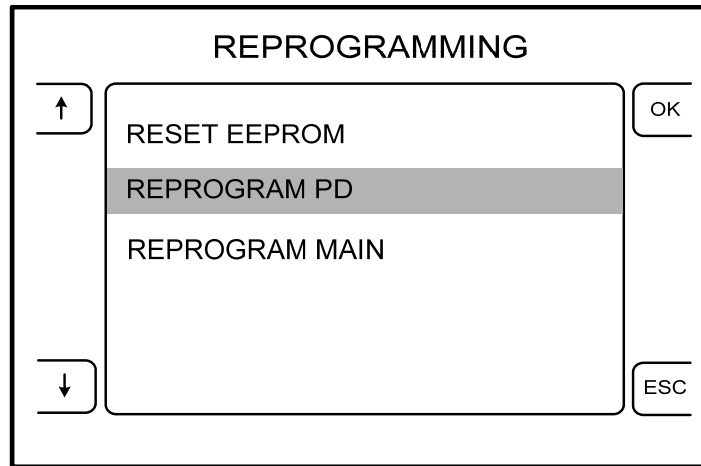

Figure 3: Select the Desired Option
4. Push the button next to the OK icon to select the desired REPROGRAMMING menu option. Push the button next to the ESC icon to return to the previous menu (see figure 3).